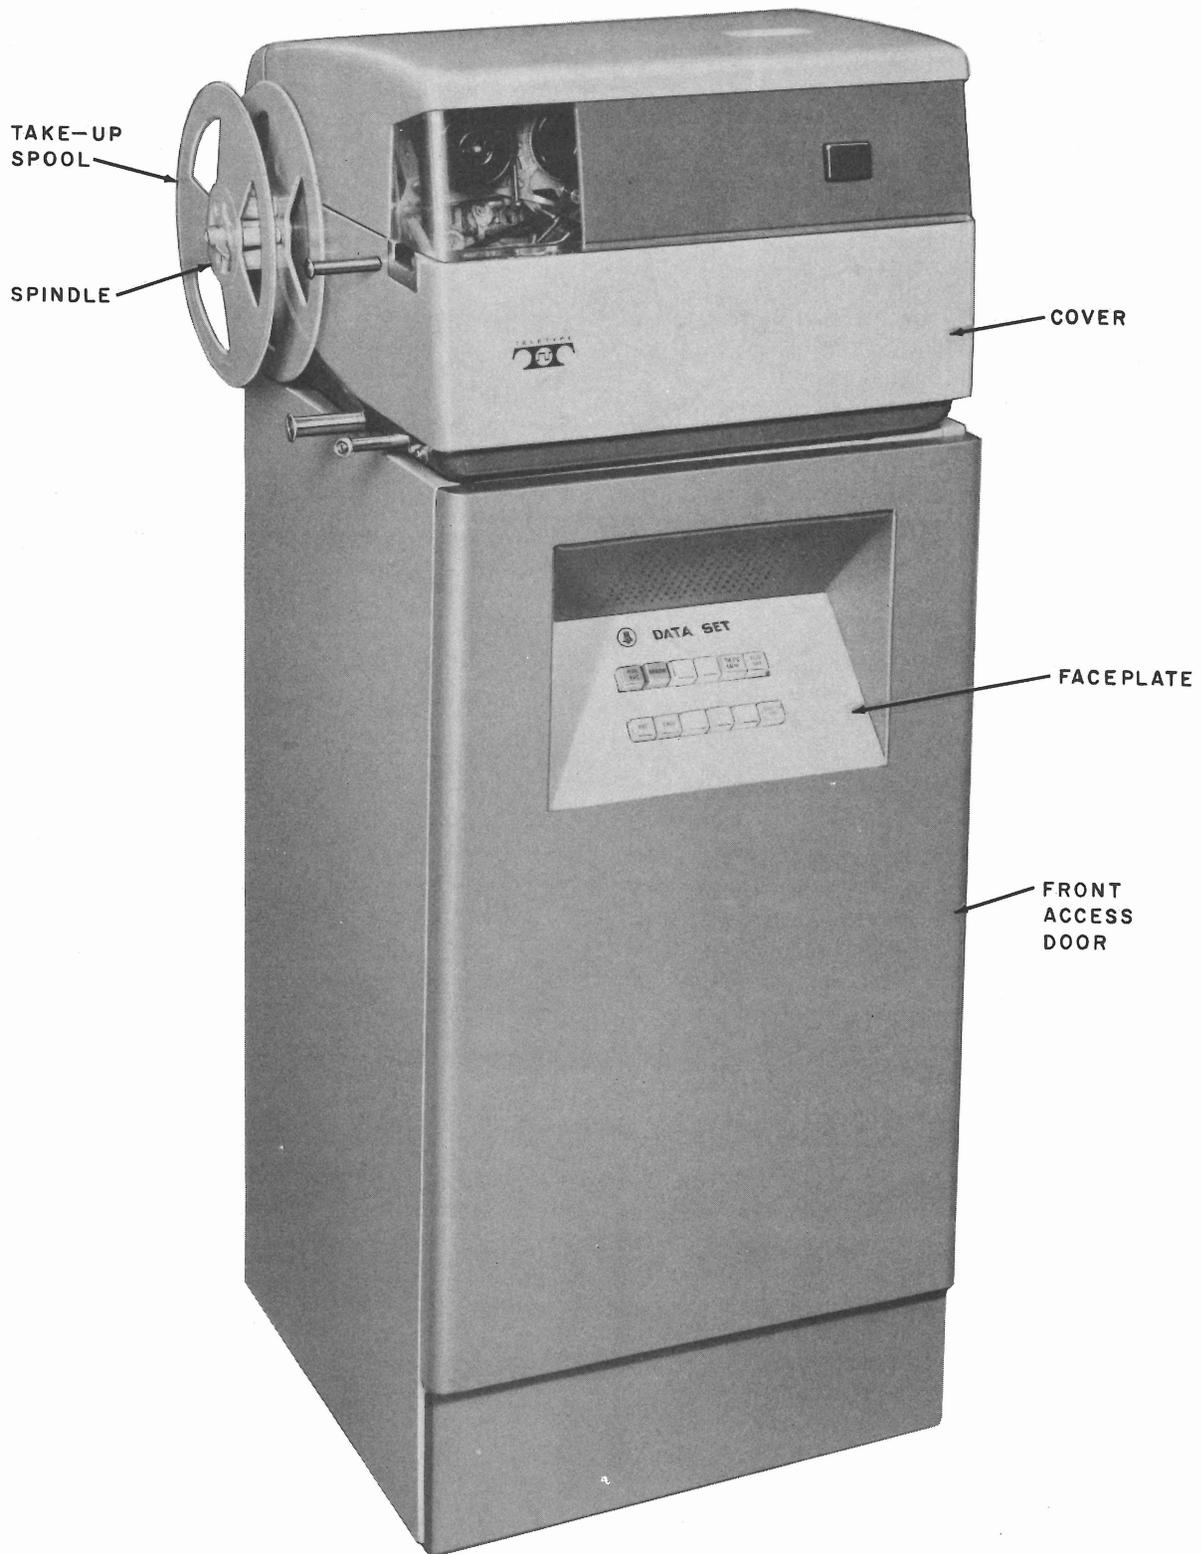

Fig. 16—35 ROTR TTY Data Station
(1) Remove the take-up spool and spindle (Fig. 16).
(2) Remove the cover by lifting vertically to disengage the spring clips.
(1) Open the magnetically latched front access door on the TTY stand (Fig. 16).
- (1) Open the magnetically latched front access door on the TTY stand (Fig. 16).